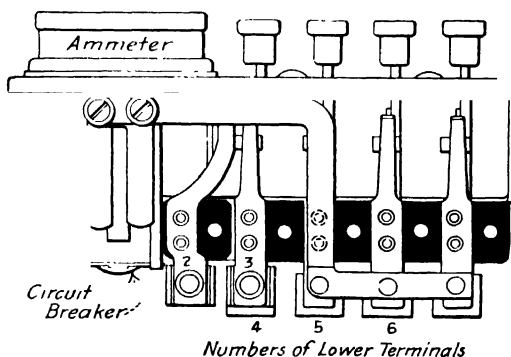

FIG. 19c.—Lighting and Ignition Switch Showing Terminals.
Figure 19c shows a lighting and ignition switch which has an automatic circuit-breaker enclosed in the circuit.
6. What is the principle under which the circuit-breaker in Fig. 19c operates?